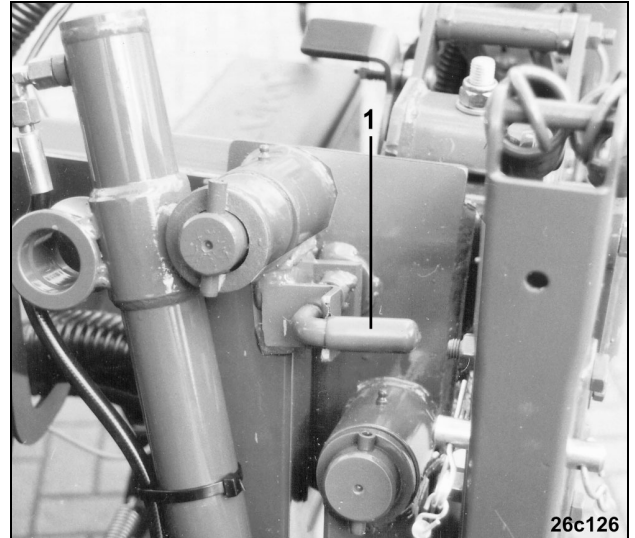

Fig. 131
- For unlocking swivel the pin (Fig. 131/1) into the position as illustrated.